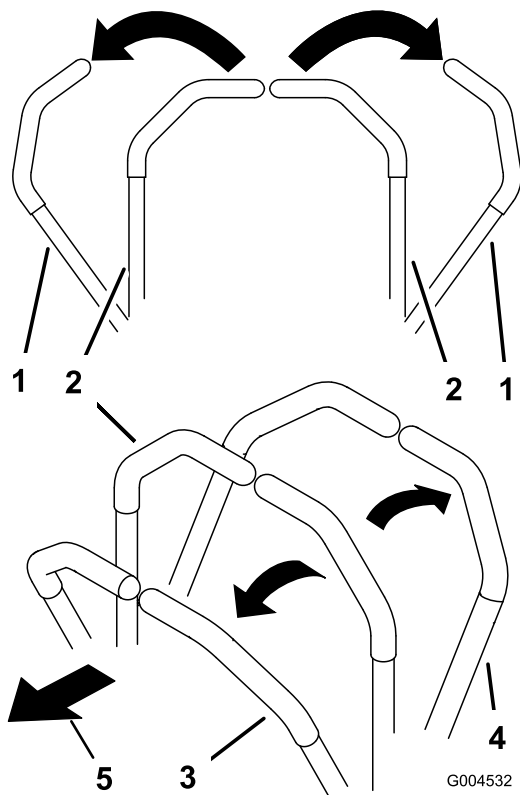

Figure 22
- To move straight forward, slowly push the motion-control levers forward (Figure 22).
- To move straight rearward, slowly pull the motion-control levers rearward (Figure 22).
- To turn, slow the machine by pulling back on both levers and then push forward on the lever on the opposite side from which you want to turn (Figure 22).